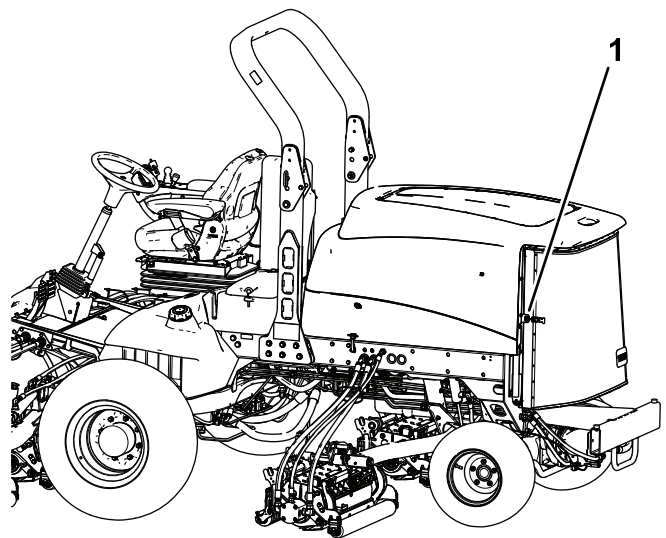

Figure 78
2. Unlatch and swing open the rear screen (Figure 78).